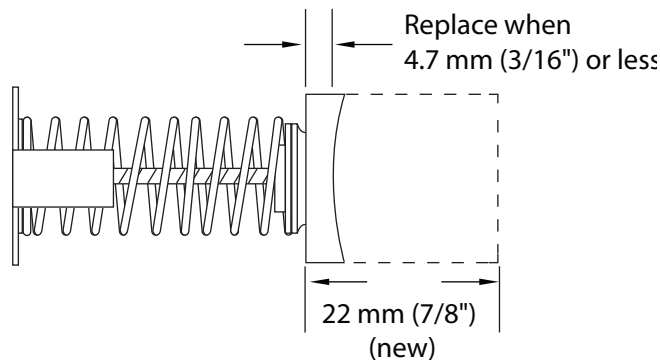

Figure 9. Brush Inspection
2. The brush assemblies must be replaced if they are 4.7mm (3/16") long or less. See Figure 9.